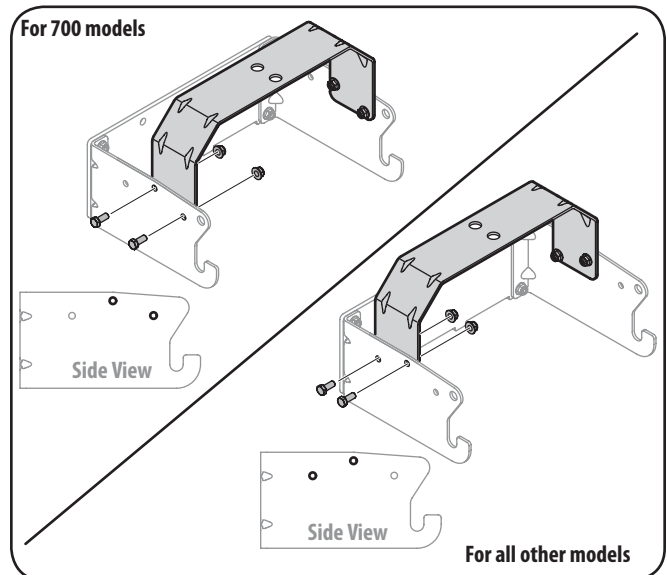

Figure 3-4
2. Flip over assembly and mount the hitch support bracket to the mounting assembly as seen in Fig. 3-4.
Note: The holes closest to the mounting hooks are to be used for all 700 model series machines, while the two holes closest to the cross mount are for all other models. The hitch support bracket will need to be flipped to enable alignment of the proper holes depending on the model of machine this rear weight kit is being installed on. See Fig. 3-4.